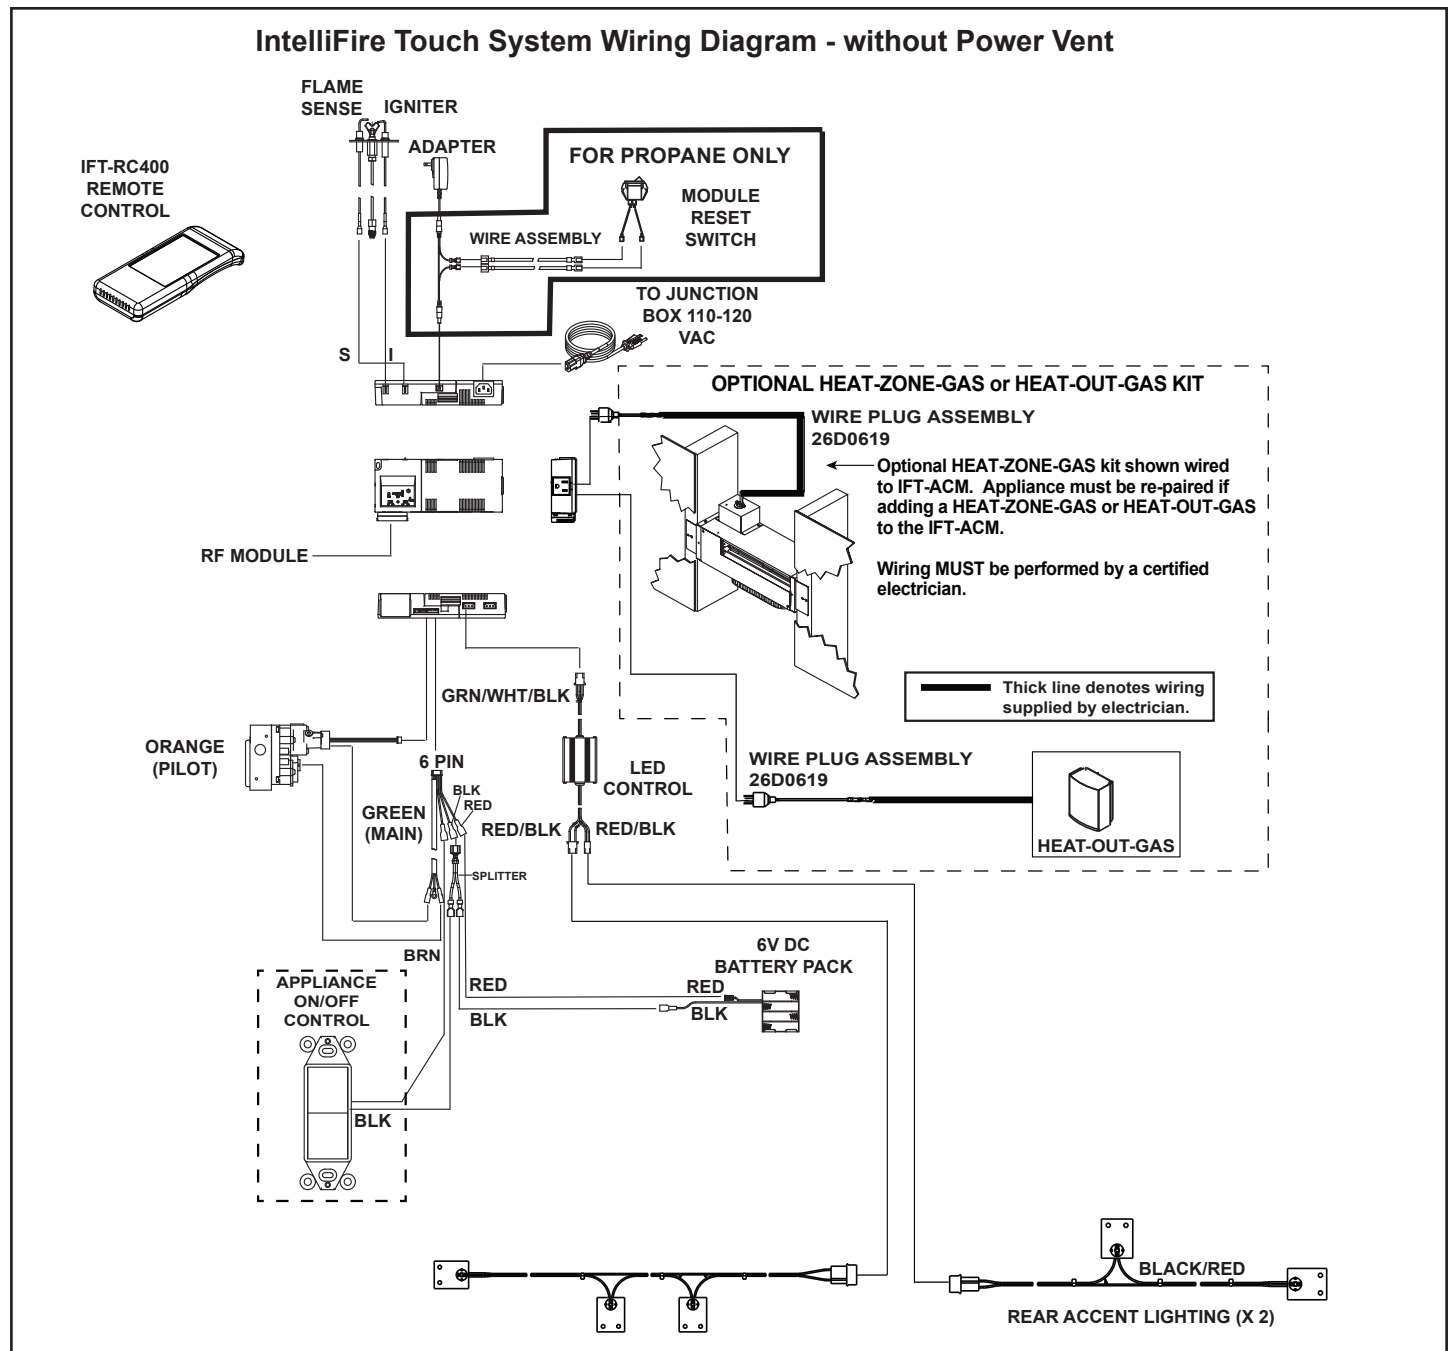

Figure 8.3 IFT Wiring Diagram without Power Vent
- Refer to Figure 8.3 or 8.4, IFT Wiring Diagram.